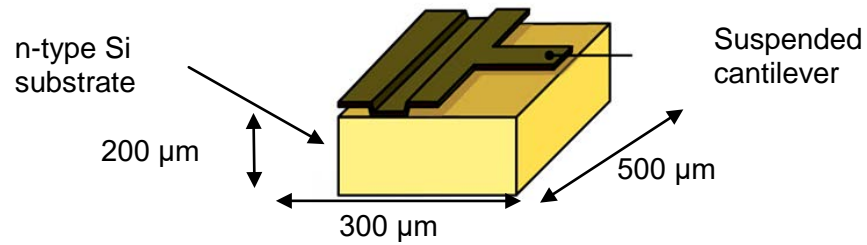

Figure Q5[c]
- [c] **Figure Q5[c] shows a suspended cantilever structure on top an n-type Si substrate. The structure was constructed by surface micromachining. Describe the prior machining steps before this structure is produced.**